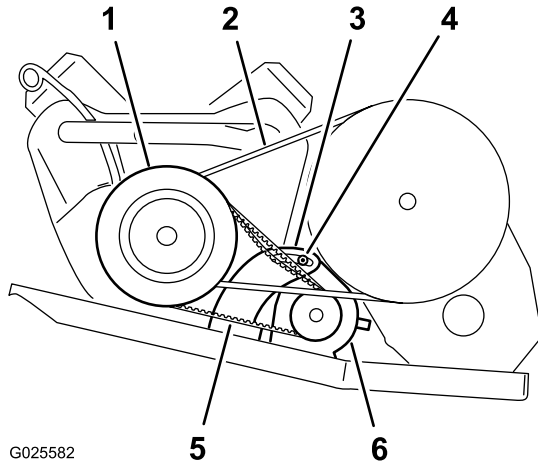

Figure 73
- Loosen the pivot nut for the starter generator (Figure 73).
- Apply downward pressure to the pry bar to rotate the starter down in the slot until the belt tension only allows 6 mm (1/4 inch) belt deflection with 44 N (10 lb) of force (Figure 73).
- Tighten the pivot nut hand tight, and remove the pry bar (Figure 73).